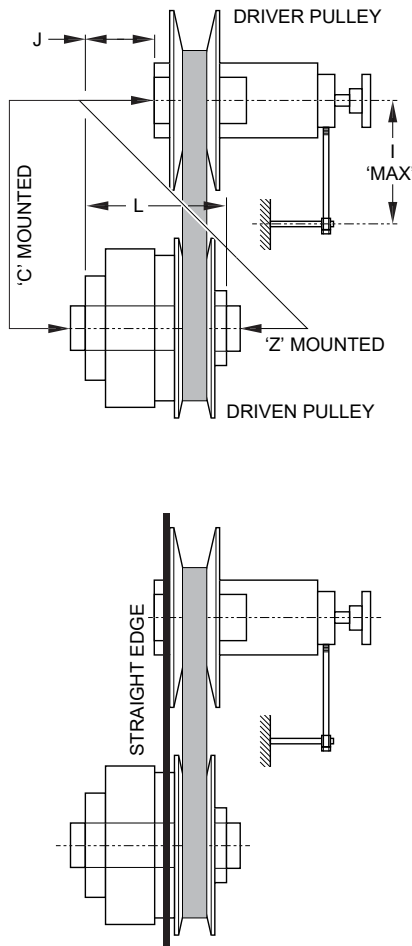

Figure 32. Pulley Orientation
A fixed center distance compound drive (Figure 32) consists of one cam-stabilized automatic variable pulley, one manually controlled pulley, and either a standard V-belt or a variable speed belt.
1. Position the electric motor so that its shaft is offset from the driven shaft according to dimension J for 'C' mount or dimension L minus dimension J for 'Z' mount. Make sure the shafts are parallel. See Figure 32.
4. Align the drive by placing a straightedge along the outside rim of the automatic pulley and move either pulley axially on its shaft until the belt edge is parallel to the straightedge. See Figure 32.